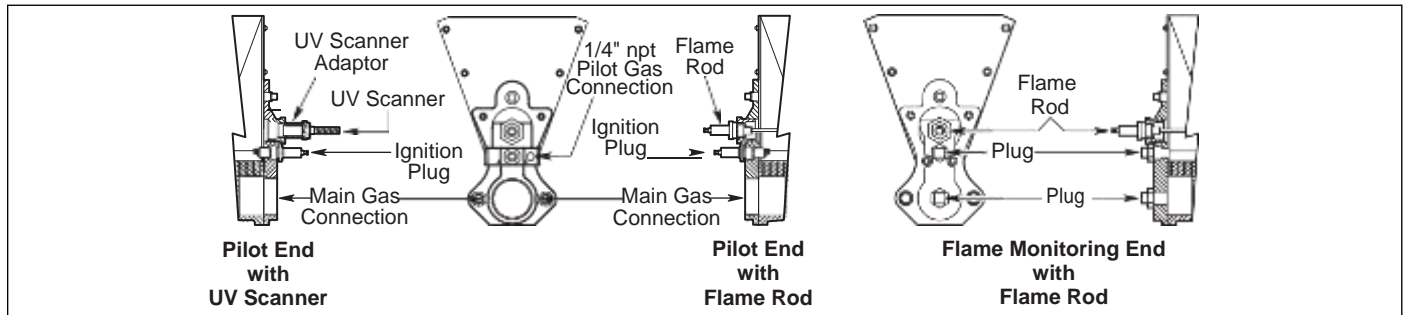

Figure 3.4 End Plate Examples (Shown with Optional UV, Flamerod, and Spark Plug Installed)
- Depending on the chosen flame sensor, locate and install it into the corresponding opening located in the end plate as shown in Figure 3.4.
Install the spark (ignition) plug into the appropriate opening of the end plate as shown in Figure 3.4.